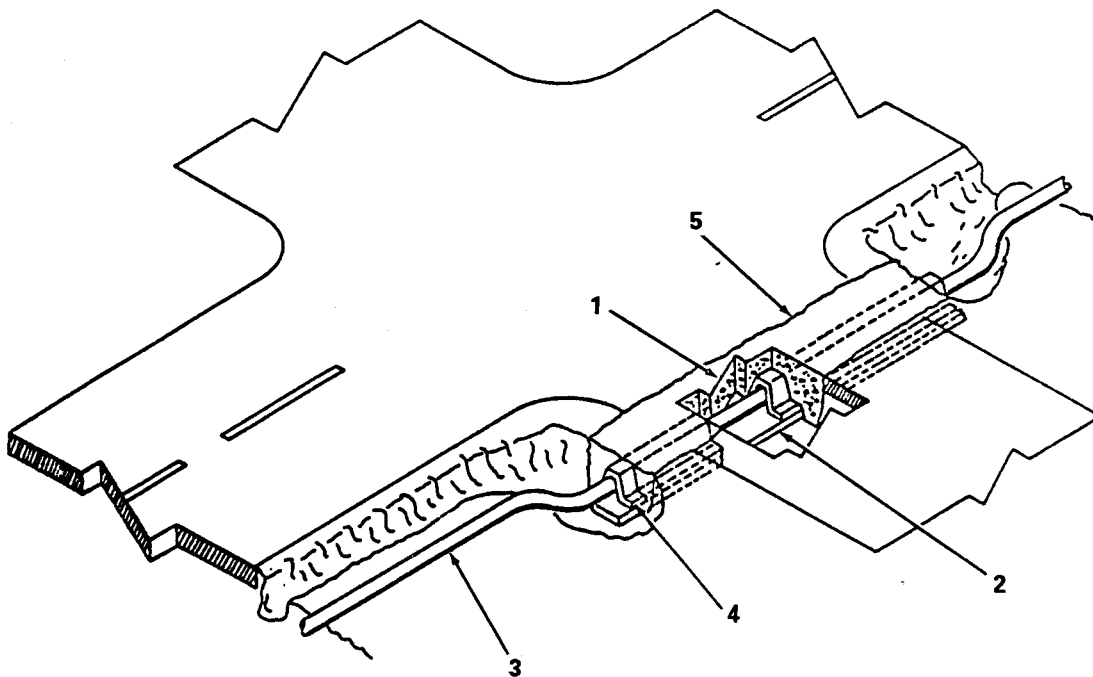

Figure 2-7. Installing Roadway Crossing Guard.
b. Installing Roadway Crossing Guard. (figure 2-7) Install roadway guard as follows:
- (1) Dig a trench (1) 12 inches (304.8 mm) deep across road or railbed.